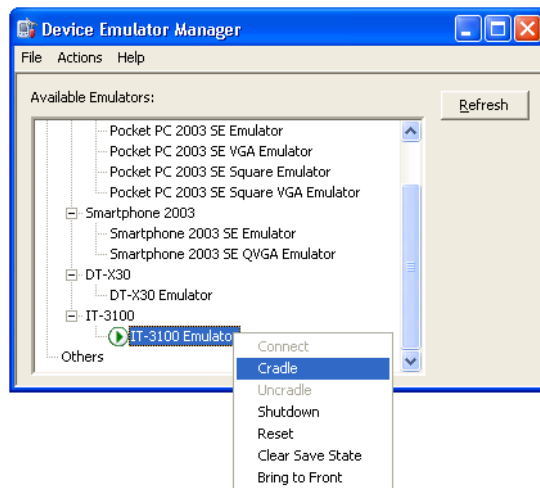

Figure 7.15
3. Right-click **IT-3100 Emulator** in **Available Emulators** list and then choose **Cradle** in the popup menu. See Figure 7.15.
4. Make sure ActiveSync has started up and the  icon in the status bar appears. See the emulated screen of IT-3100 in Figure 7.15. The icon indicates that the connection via ActiveSync has been established. Figure 7.16 simultaneously appears.